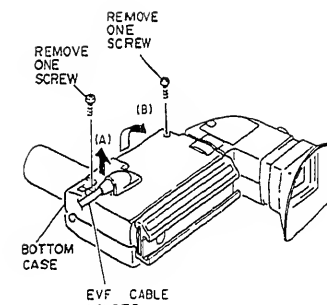

Fig. 2-151
1. Remove one (1) screw holding the EVF cable holder. (See Fig. 2-151)
2. Remove the EVF cable holder in the direction of arrow (A).
3. Remove one (1) screw holding the bottom case.
4. Remove the bottom case in the direction of arrow (B).